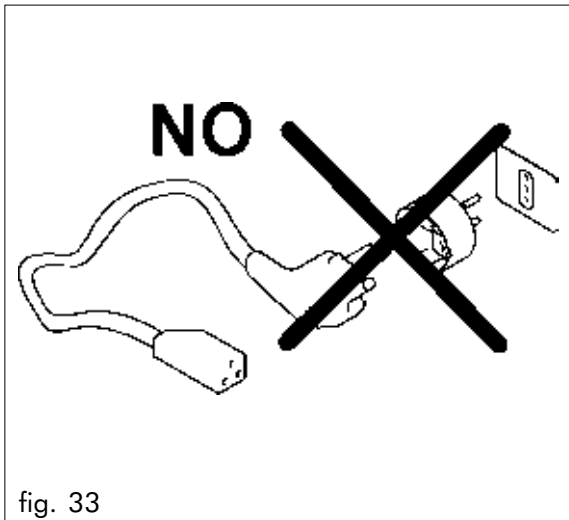

fig. 33
- The use of extensions, adapters and/or multiple plugs is forbidden (fig.33).